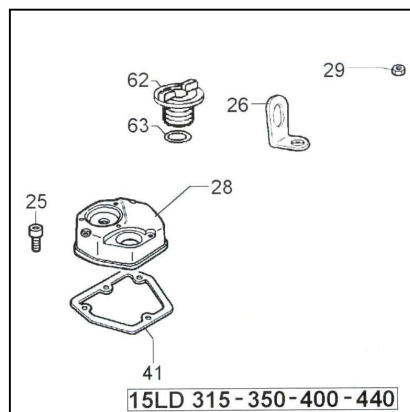

Figure 26
3. Remove oil fill cap (figure 26, #62).
4. Refill engine with appropriate grade of oil. Replace oil fill cap (figure 26, #62).